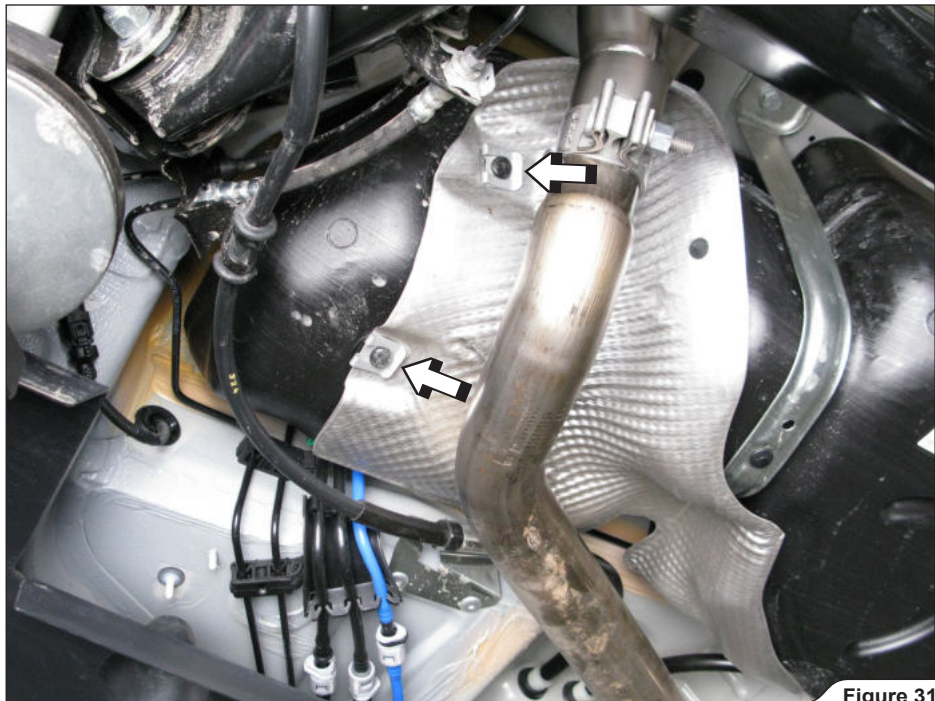

Figure 31
26. For optional wireless kit only: undo the two marked heat shield's clips (Figure 31).